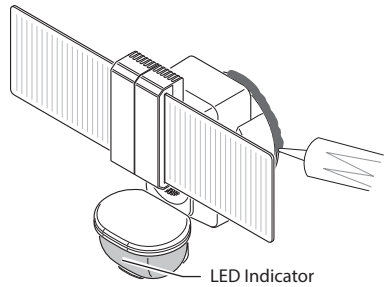

Figure 8
- Caulk around the mounting plate and mounting surface with silicone sealant (not included) (see Figure 8).
- Walk through the coverage area noting where you are when the lights turn on. Also, the LED indicator behind the motion sensor lens will glow blue when motion is detected (see Figure 8). *Note:* The blue LED will turn off 30 seconds after all motion has stopped.